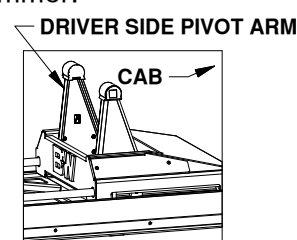
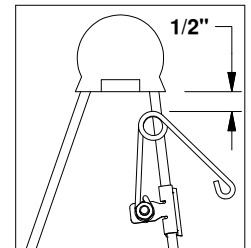

Figure D3: Base view.
Figure D4: Driver side pivot arm.
2. **Attach kit.** Locate the flange which will be closest to the truck cab on the driver side pivot arm, see Figure D3. The clip should be placed so that when the spring's coil is in line with the edge of the arm there will be 1/2" of clearance between the bottom of the polyurethane bushing and the top of the spring, see Figure D4. Drive the clip securely onto the flange with a hammer.